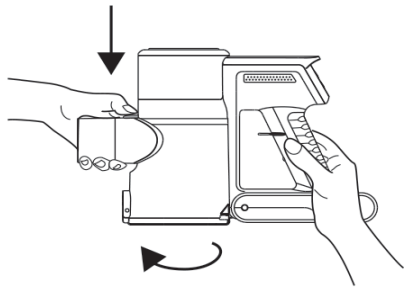

FIG. 8
3. Press and hold the dust box release button and turn the dust clockwise to release it (FIG.8)